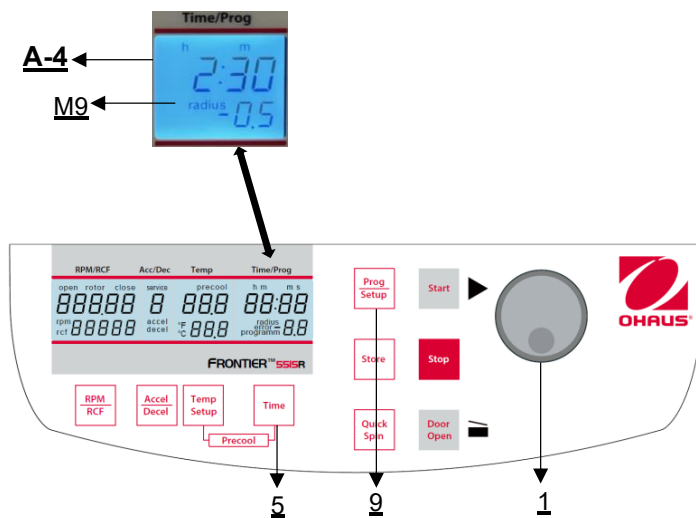

Figure 21
First, close the centrifuge lid, then press the key "**Time**" (5) and the key "**Prog/Setup**" (9) at the same time and hold them (see **Figure 21**).